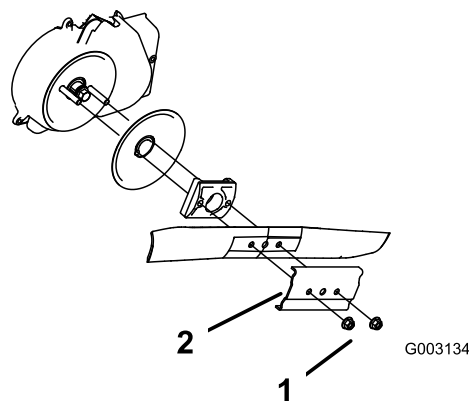

Figure 35
3. Remove the 2 blade nuts and the stiffener (Figure 35).
4. Remove the blade (Figure 35).
5. Install the new blade (Figure 35).